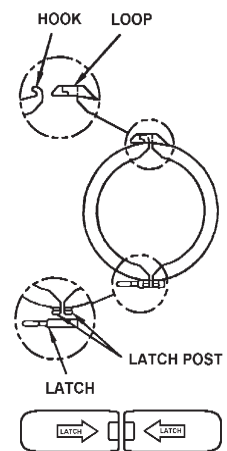

Figure 2. CLAMP ASSEMBLY
- Remove control valve by removing quick connect clamp and using a garden hose or bucket, to fill SOFTENER TANK with water (this filling method prevents air entrapment that can cause loss of resin during initial regeneration procedure). Replace control valve. Make sure clamp is reassembled as shown in Figure 2 "LATCH" arrows should point toward each other.